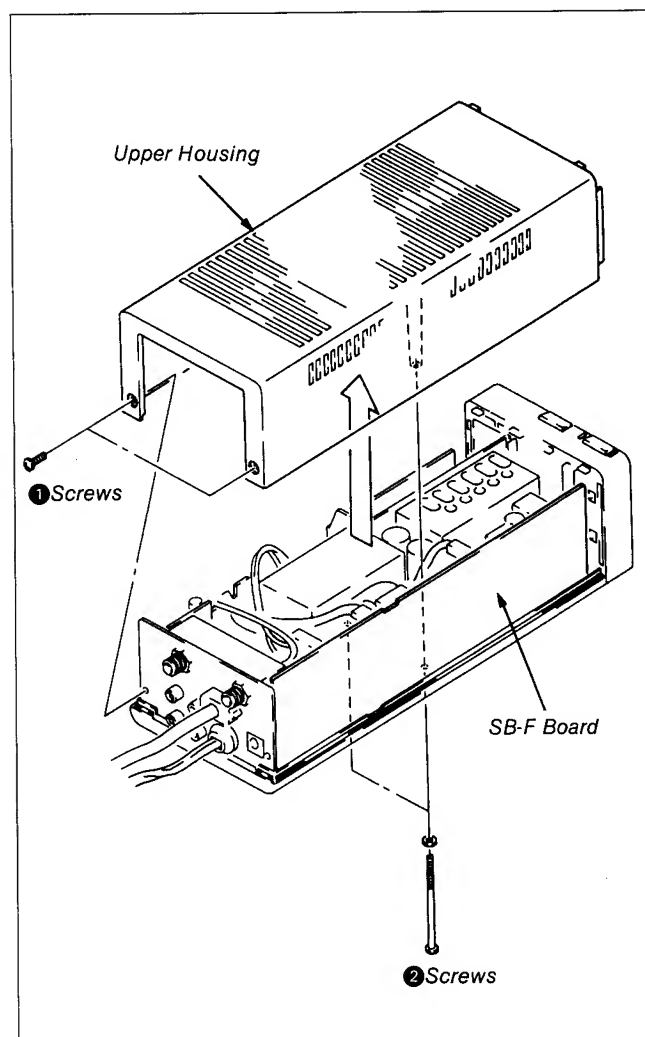

Fig. 8-51.
- i) Remove two screws ① and two screws ②, and dismount Upper Housing (see Fig. 8-51)
- iii) Mount Upper Housing back on, and tighten two screws ① and two screws ② (See Fig. 8-51).